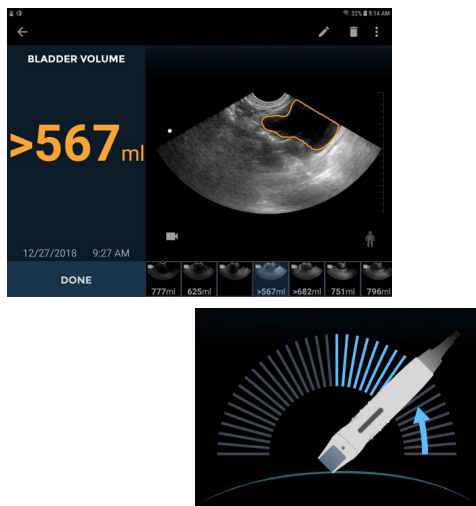

FIGURE 23. Greater than symbol
2. Fan the probe toward one hip until you hear the sound indicator and see an arrow, then fan back toward the other hip until a second sound is heard to capture the entire bladder (FIGURE 23. Greater than symbol).